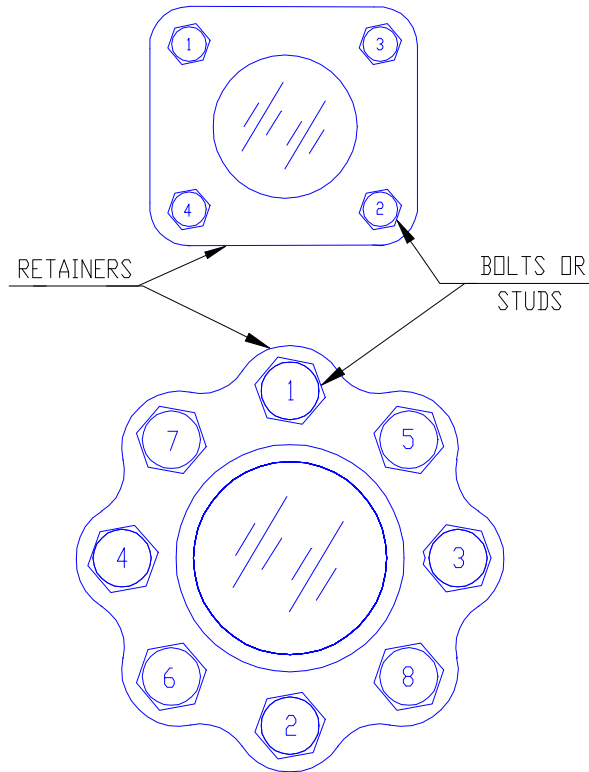

Figure 2
- f) Check the torque values of the retainer cap screws. These can loosen during shipment. The proper sequence is shown in Figure 2. The correct torque values for various gasket materials can be found in Table 2.
- g) Use a torque wrench to complete the tightening procedure. Follow the proper sequence as demonstrated in Figure 2. The correct torque value for the gasket material utilized can be found in Table 2. The cap screws should be tightened in increments of 3 ft-lbs.